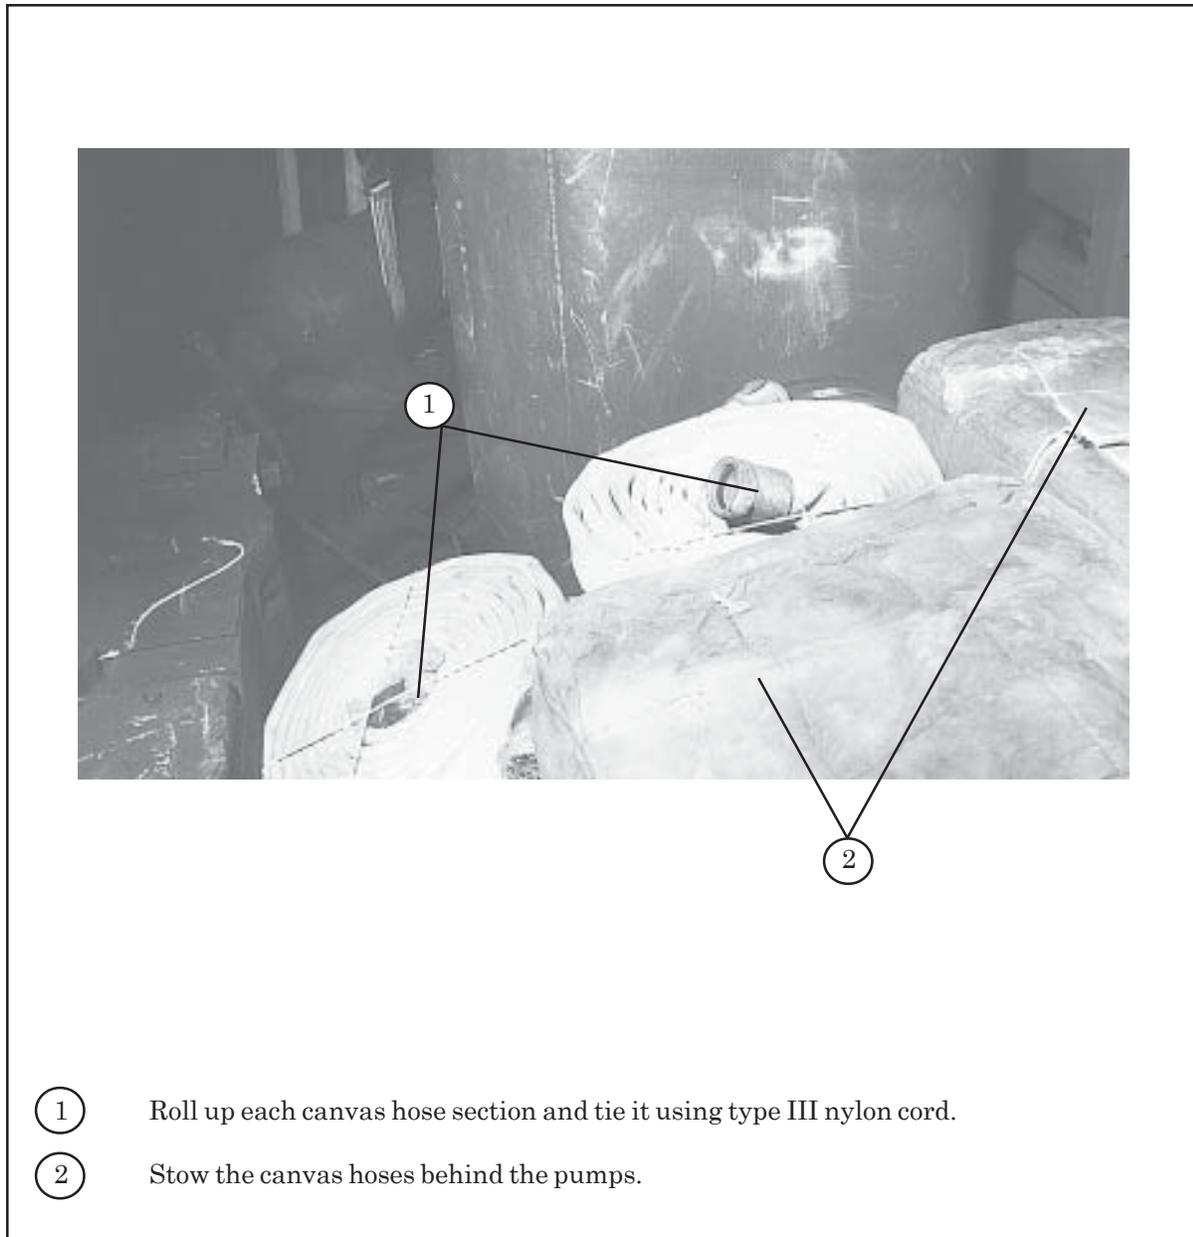

Figure 1-17. Canvas Hose Prepared and Stowed
m. Prepare and stow the canvas hoses as shown in Figure 1-17.